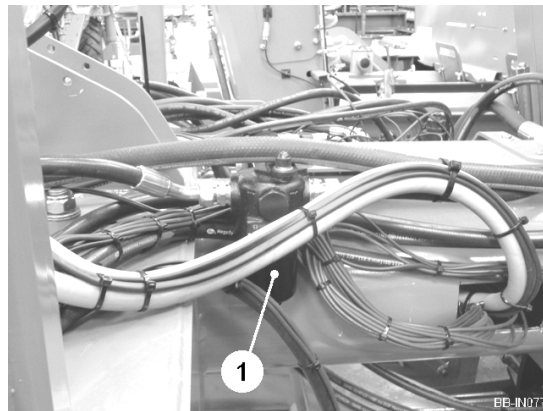

Fig 18
The pressure filter (item 1, fig 18) should be replaced after the first 50 hours running time and then every 500 hours or annually thereafter.